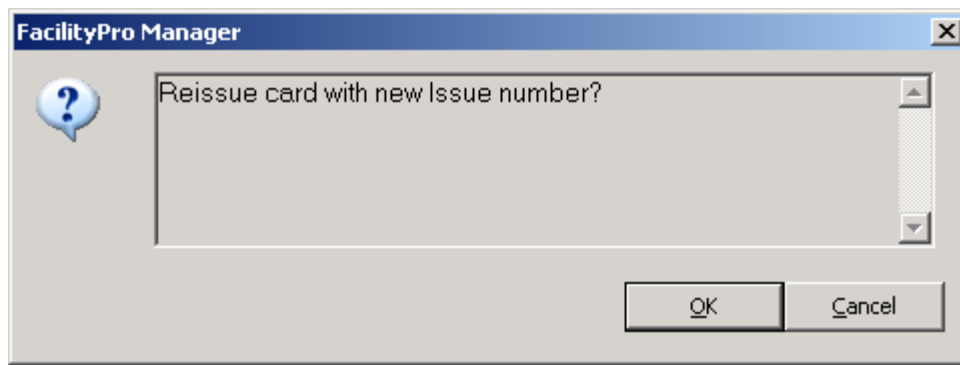

Figure 3-31 Reissue card
4. Click **Reissue**. You will see the message shown in Figure 3-31.